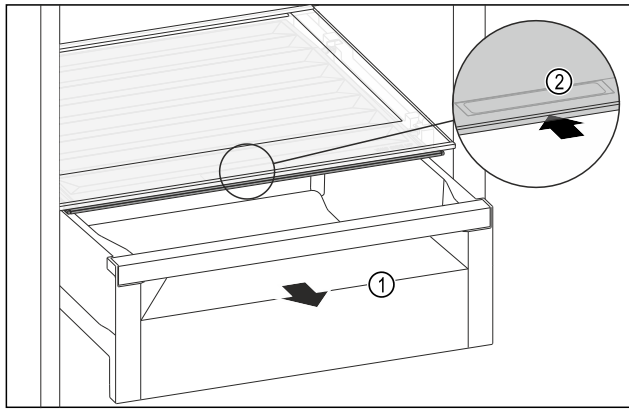

Fig. 82
- ▶ Pull out the drawer Fig. 82 (1).
- ▶ Grasp the recessed grip Fig. 82 (2) on the compartment lid and push the compartment lid backwards at the same time.